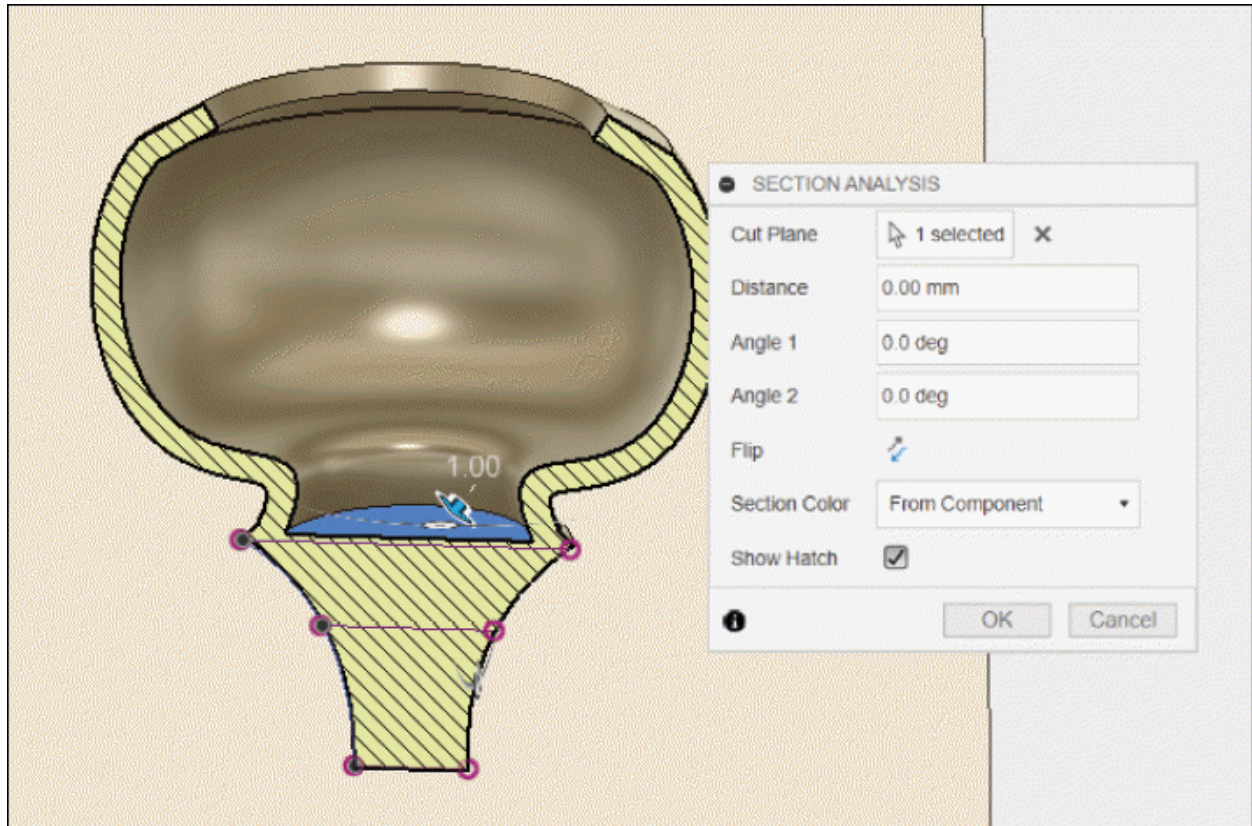

Figure-70. Updated SECTION ANALYSIS dialog box
- On selection of face, the dialog box will be updated along with the preview of model; refer to Figure-70.